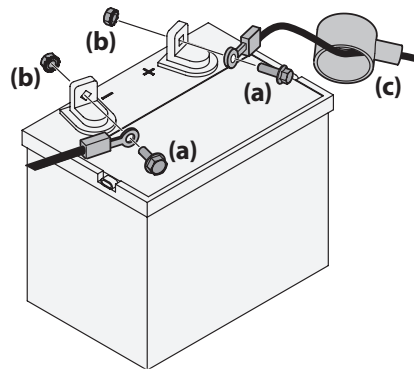

Figure 2-8
1. Remove the plastic cover, if present, from the positive battery terminal and attach the red cable to the positive battery terminal (+) with the bolt (a) and hex nut (b). See Figure 2-8.
2. Remove the plastic cover, if present, from the negative battery terminal and attach the black cable to the negative battery terminal (-) with the bolt (a) and hex nut (b). See Figure 2-8.